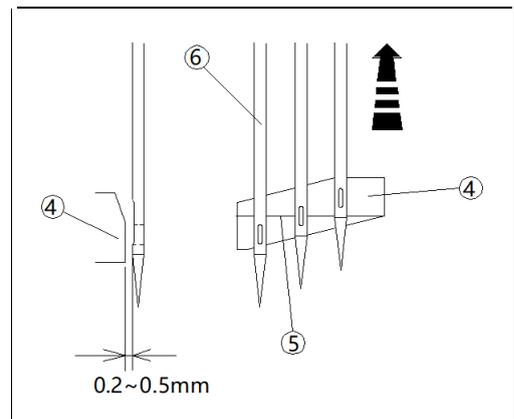

Figure 7-27
(2) Turn the handwheel to raise the needle so that the upper side of the left needle's⑥ needle hole aligns with the edge line⑤ of the rear thimble plate④, setting the gap between the needle and the rear thimble plate④ to 0.2mm. (Figure 7-27)